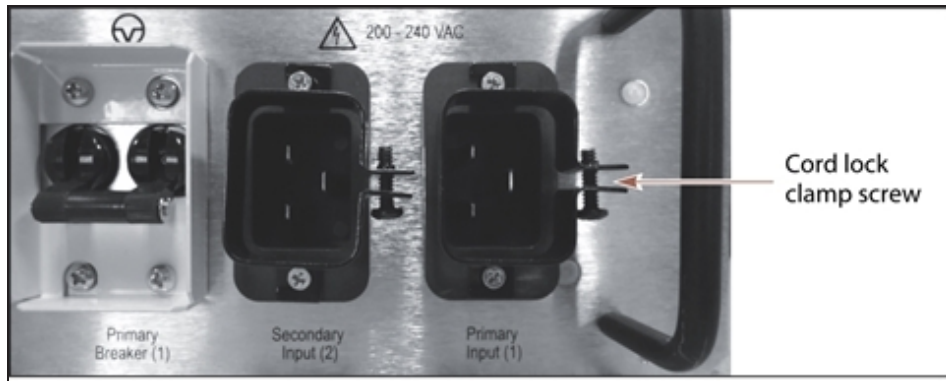

Figure 71 Install the cord locks on the power cords.
6. Place a cord lock over the connector on the end of the power cord that connects to the library. Orient the cord lock as shown in Figure 71.